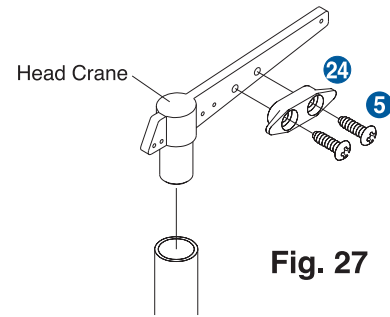

Fig. 27
1. Attach a Cleat **24** to the head crane using 2.6x8mm Self-tapping Screws **5** as shown in Fig.27.